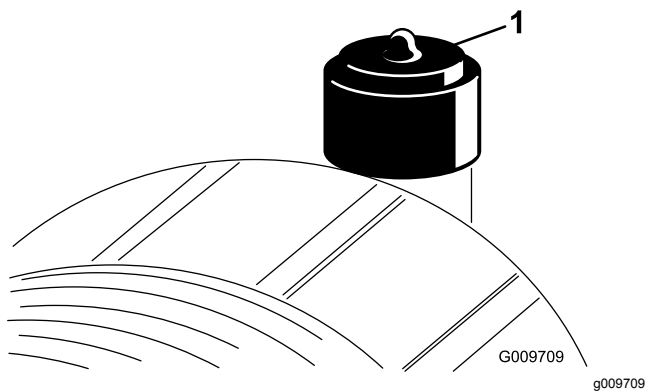

Figure 42
- Replace the air cleaner element when the air-cleaner indicator (Figure 42) shows red. Do not over-clean the air-filter element.